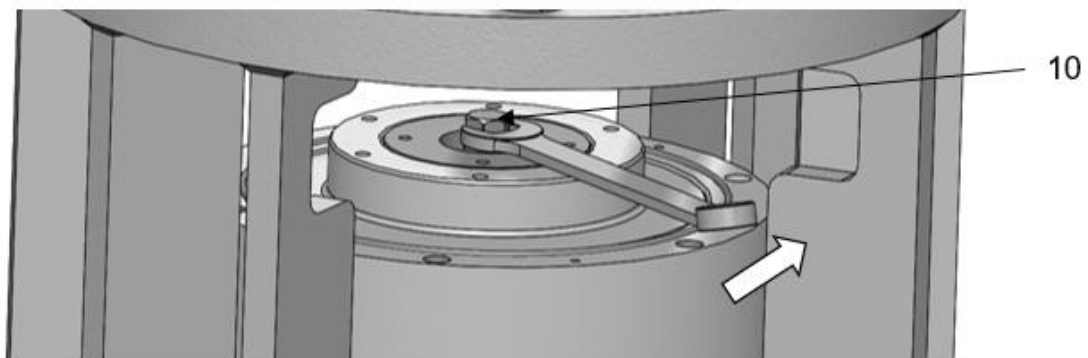

Fig. 5.4
4. Turn the wear adjustment screw **10** with a 22 mm A/F wrench anticlockwise to raise the pad holder, until there is enough space to remove the pad easily see Fig. 5.4. Be careful not to force it to the extreme position.